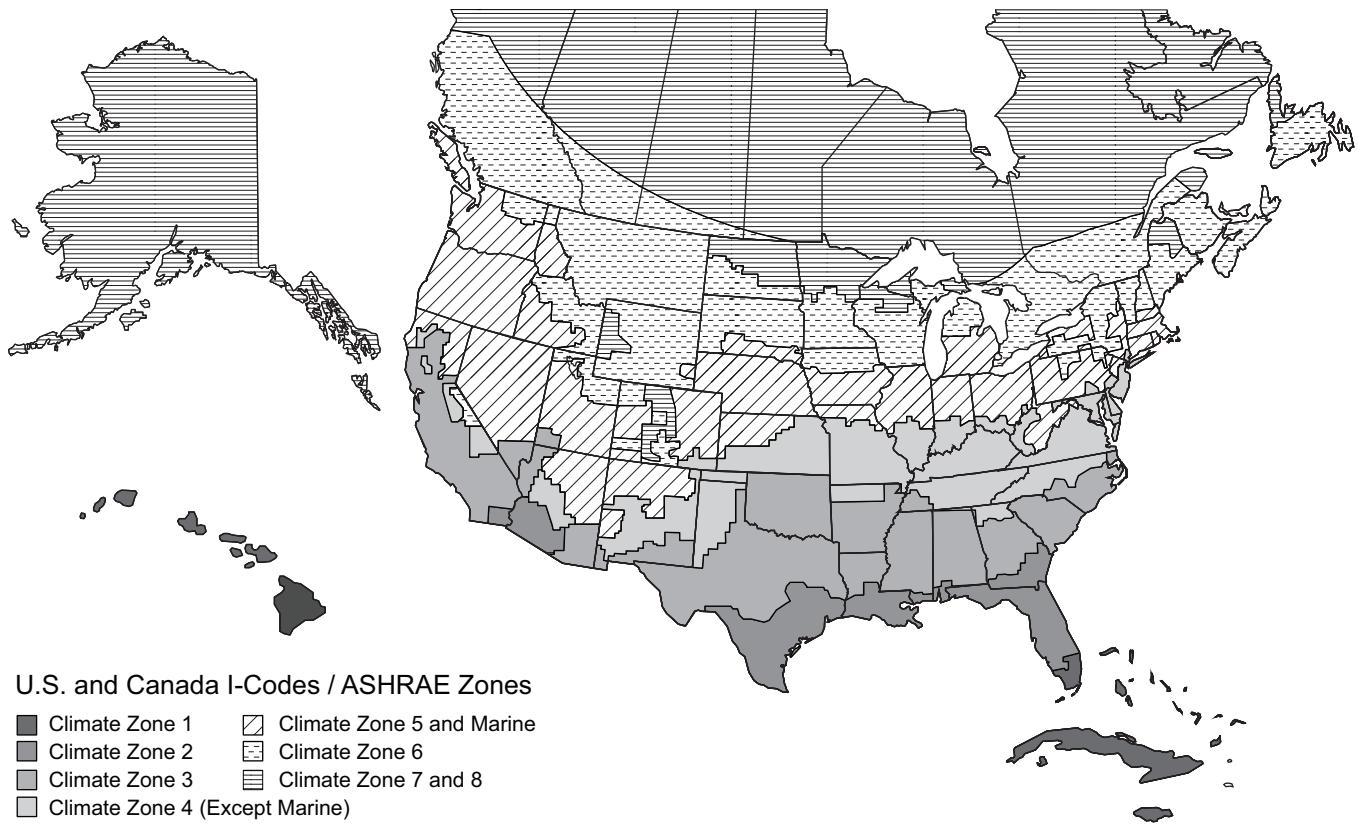

Fig. 90 — U.S. and Canada Climate Zones
- Refer to Fig. 90 for map of U.S. and Canada climate zones.